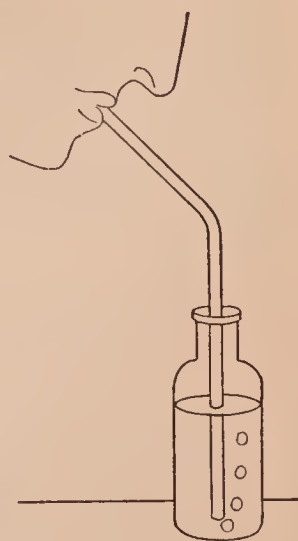

FIG. 17. — Testing the breath for carbon dioxide
**APPARATUS.** — Bent tube as in Fig. 17 for (g).
(g) Exhale the breath through a glass tube into a bottle half full of limewater (Fig. 17). Describe the result. Conclude what gas the breath contains.